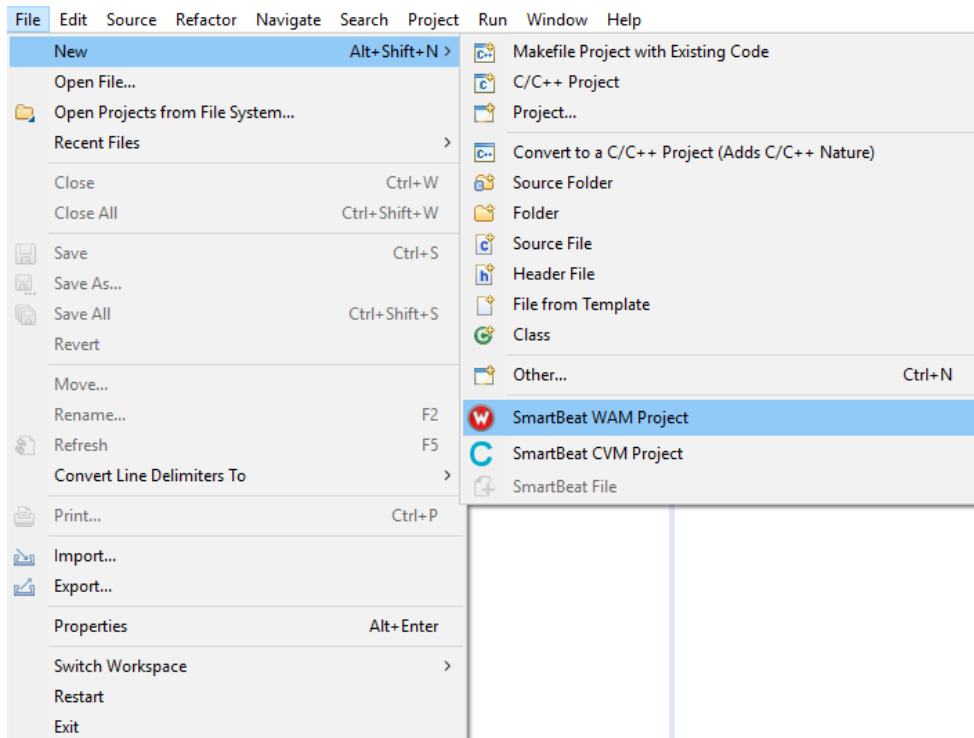

Figure 12: Create a New Project in Smartbeat™ AVD Studio to Program Audio Data Stack
2. Create a project by clicking **File > New > Smartbeat WAM Project** (Figure 12).